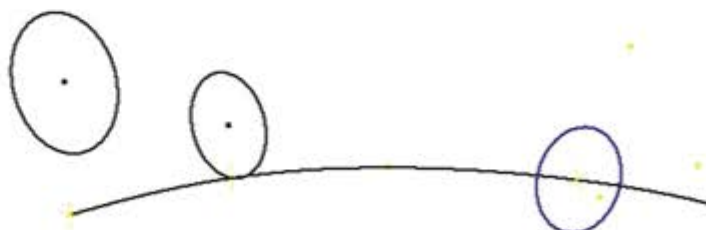

Figure 13–44
4. Which type of loft can be used to create a loft that passes through the three circular sections and is guided along the curve, as shown in Figure 13–44?